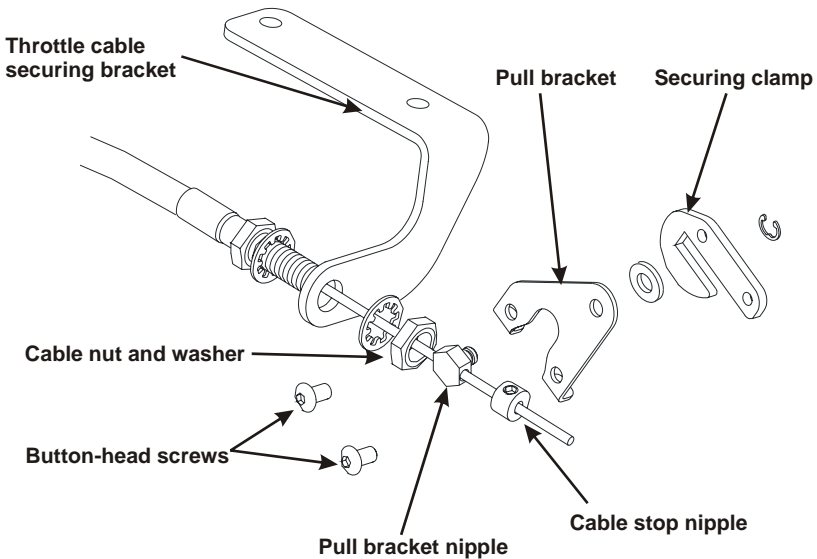

Figure 4.4
- Place the supplied throttle cable securing bracket over the OEM bracket and fasten them both in place using the OEM bolts (Figure 4.4).
- Remove the two (2) button head cap screws from the supplied throttle pull assembly and separate the throttle pull clamp from the throttle pull bracket.